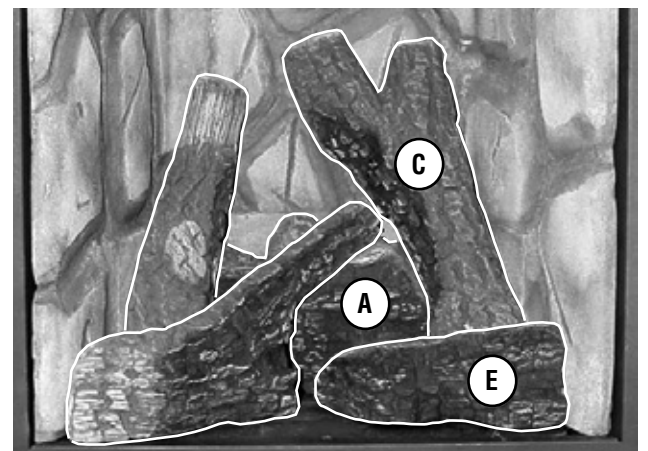

Figure 48 - Install Right Middle Log (C)
5. Place the right middle log (C) as shown in Figure 48. Position log C behind Log E and resting on the "flat" on Log A.